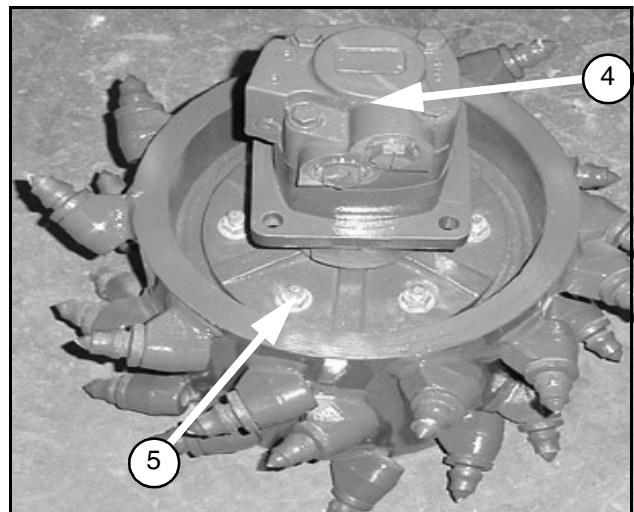

Figure 24.
2. On the opposite side of the drum as shown in Figure 24 install the motor/hub assembly (4) to the drum and torque the six 1/2" – 20 nuts (5) to 90 lbs-ft. (122 N-m).